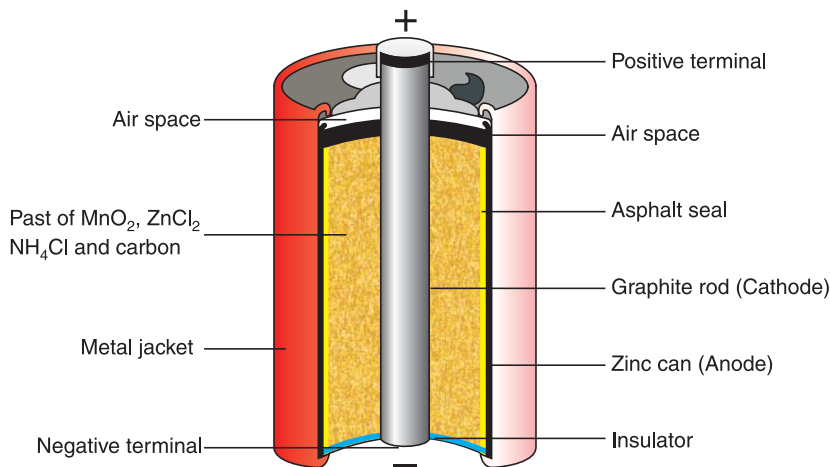

Figure 3.8 Zinc-carbon dry cell (Leclanche cell).
A zinc-carbon dry cell, which is also called a **Leclanche cell** (Figure 3.8) is used in devices like portable radios and flashlights. The cell consists of a zinc cup that serves as the anode. The zinc cup is filled with a paste of manganese (IV) oxide, zinc chloride, ammonium chloride and powdered carbon. A graphite rod, immersed in this paste, serves as the cathode.
The non-metals like H_2 , Cl_2 , F_2 etc are manufactured on an industrial scale by the process called electrolysis. The metal aluminium is extracted industrially by the **Hall Process**. This process involves the electrolysis of molten alumina (Al_2O_3) mixed with some amount of cryolite, Na_3AlF_6 . The role of cryolite is to reduce the melting point of alumina from 2000°C to 1000°C . The vessel holding the molten mixture (Figure 3.8) is made up of iron lined with carbon, which serves as the cathode. Carbon (*graphite*) rods that serve as the anode are inserted into the melt. When the molten mixture is electrolyzed, pure aluminium is produced. The reactions at the electrodes are: